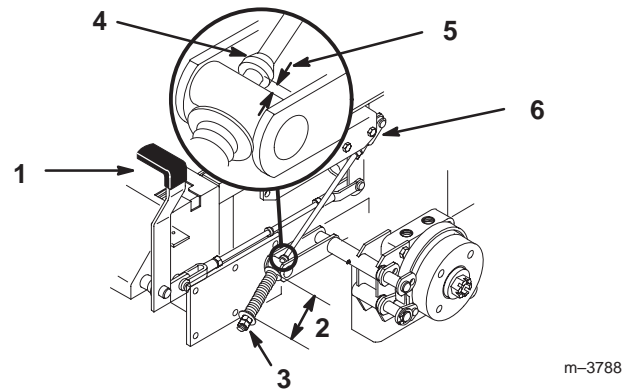

Figure 62
2. Measure the length of the spring. Measurement should be 2-3/4 inch (70 mm) between washers (Fig. 62).
3. If adjustment is necessary, loosen the jam nut below the spring and tighten the nut directly below the yoke (Fig. 62). Turn the nut until the correct measurement is obtained. Tighten the two nuts together and repeat on opposite side of unit.
- A. Measure the distance between the trunnion roller and the collar on brake rod. The measurement should be 3/16-1/4 inch (5-7 mm) (Fig. 62).
6. If adjustment is necessary, loosen the jam nut directly below the yoke. Turn the bottom rod until the correct measurement is obtained (Fig. 62). Tighten jam nut at yoke